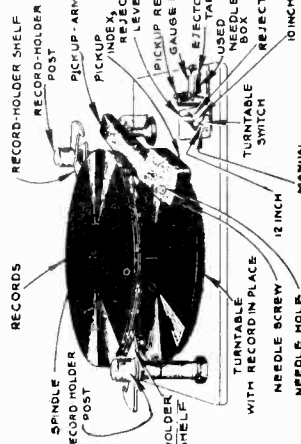

Fig. 2—Top View of Automatic Record Changer
2. With the **Index and Record Reject Lever** at "Manual", place the first of the series of records on the turntable and the remainder of the series (up to seven 10" or six 12" records) on the record holder posts (as shown in Fig. 2). The records should be arranged in the desired order with the desired selection face up and the last selection on top.